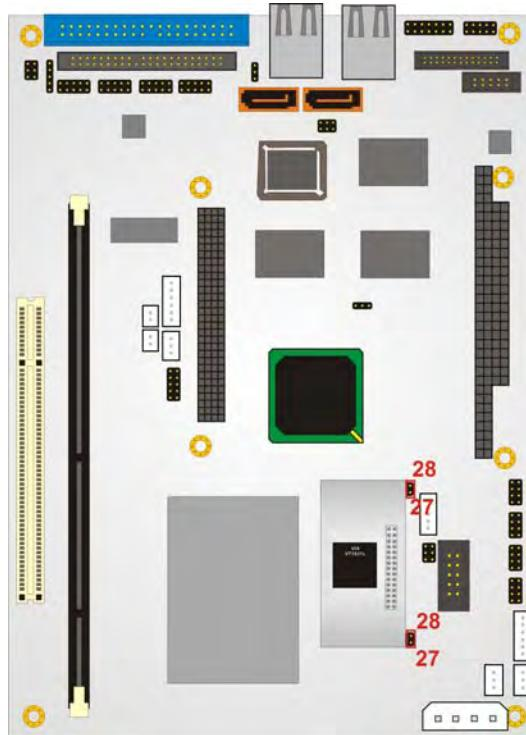

Figure 4-2: 18-bit LVDS 3907720 Connectivity
Step 3: Slide the 3907720 onto the connectors. Pin 27 and pin 28 on both the J1 and J3 connector should be visible. See **Figure 4-2**.